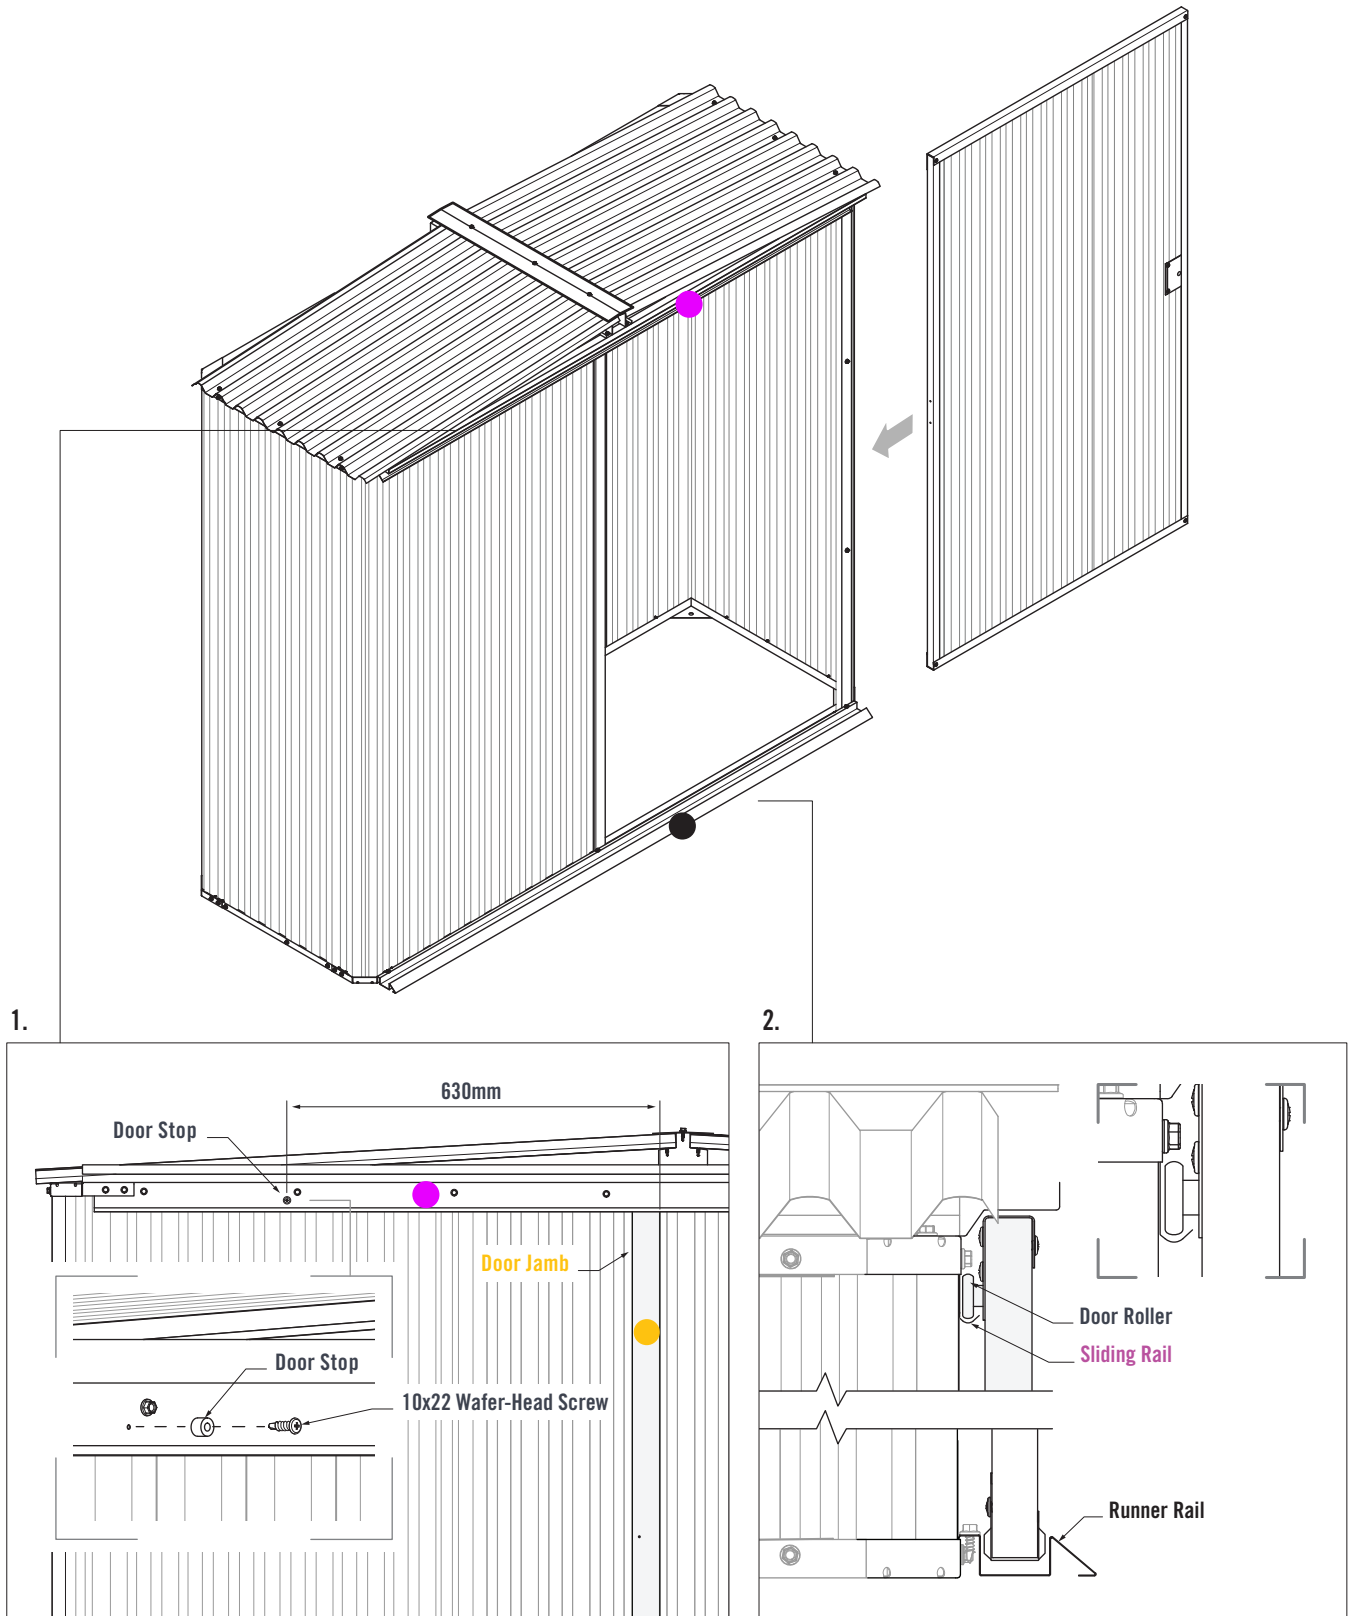

FIGURE 7.5
1. Fasten a 10x22 Wafer-Head screw through the Door Stop and into the pilot hole in the Sliding Rail. For reference, the Door Stop should be spaced 630mm from the Door Jamb (Figure 7.5).
2. Slide the Door into the Sliding and Runner Rails. The Door Roller should fit into the Sliding Rail at the top. The bottom of the Door should fit into the Runner Rail at the bottom (Figure 7.5).